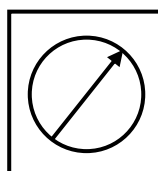

FIGURE 4.14
4.14 Identify the symbol of the hydraulic component in FIGURE 4.14 below.